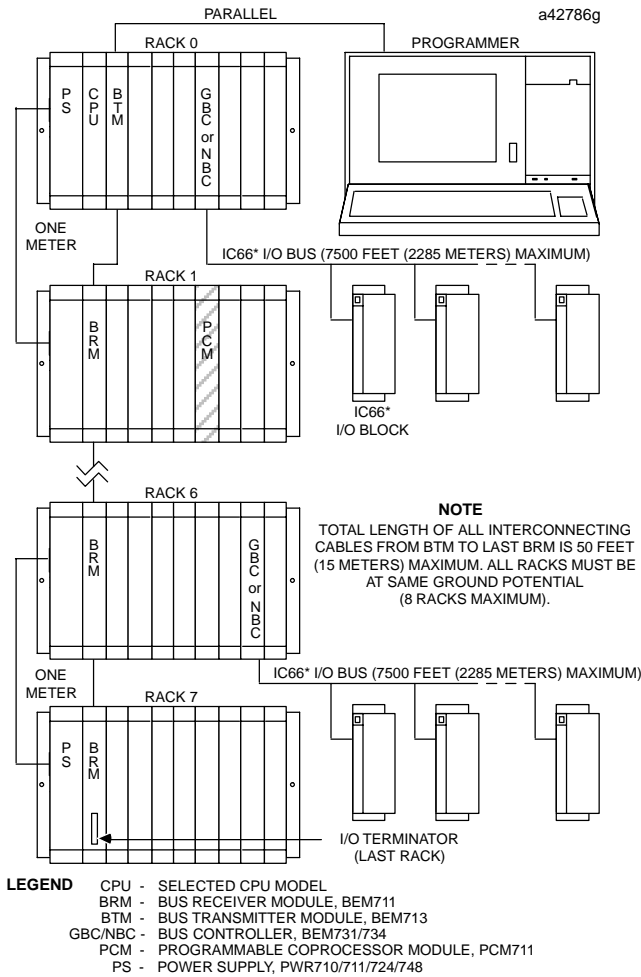

Figure 1. Typical PLC System Configuration (PCM Shown in Rack 1)
- Install in the rack. (See figure 1)